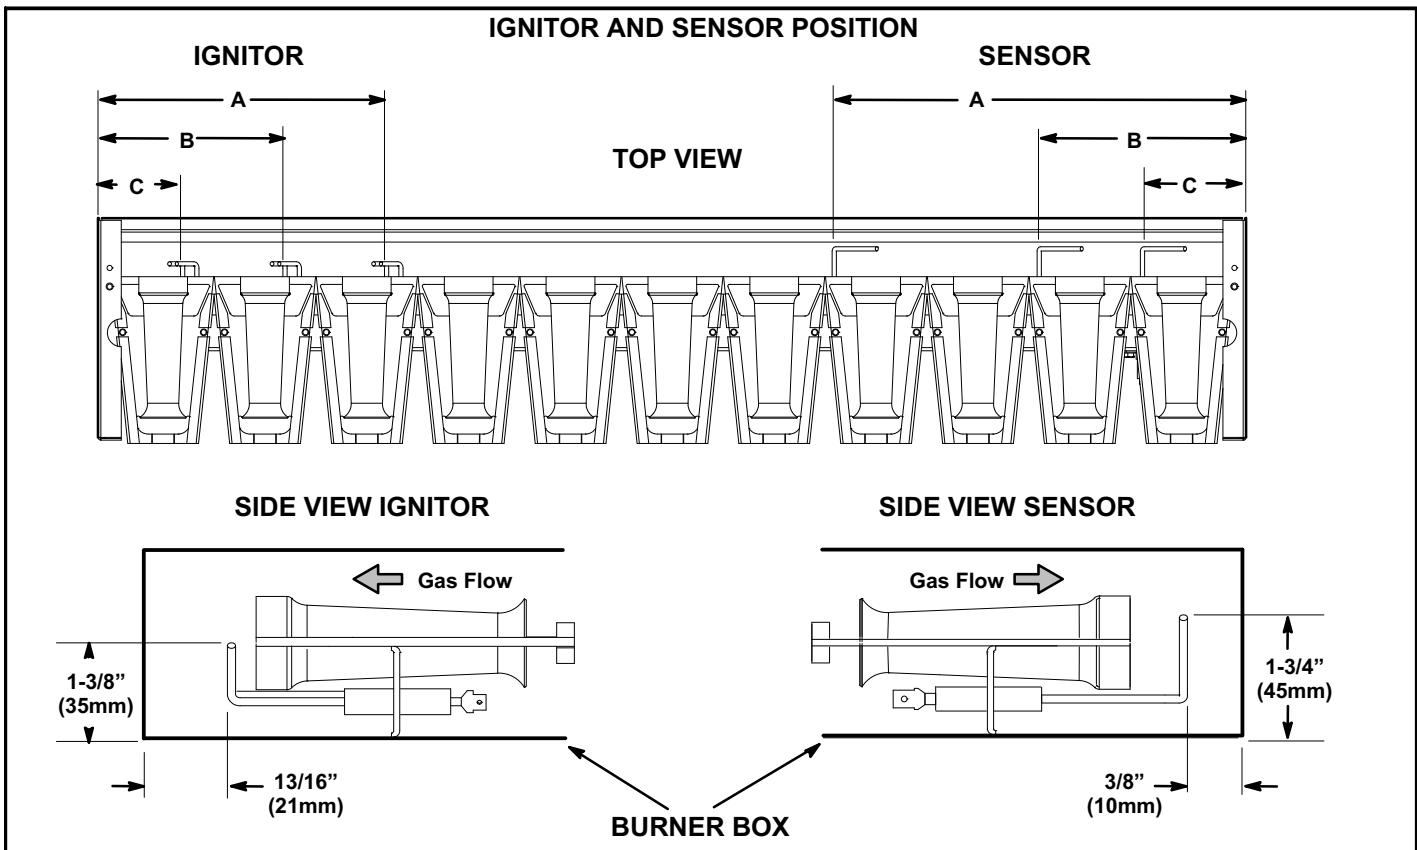

FIGURE 29
- 5- Check the alignment of the ignitor and the sensor as shown in figure 29 and table 26.